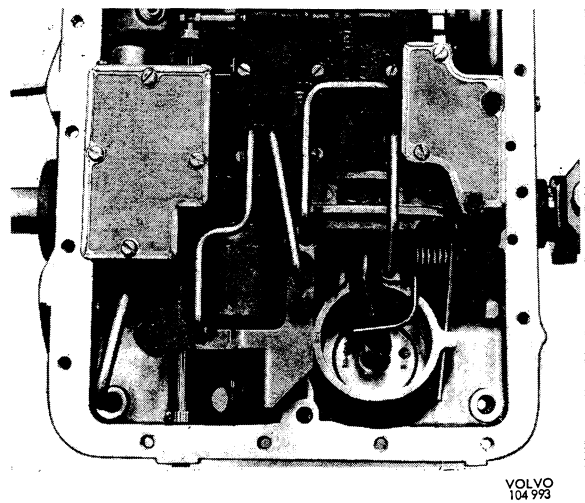

Fig. 4-112. Retention of front and rear pump strainers
28. Fit the four oil tubes according to Fig. 4-112. N.B. The oil tube for releasing the front control cylinder is provided with a constriction (A, Fig. 4-113). This end is fitted in the control system.